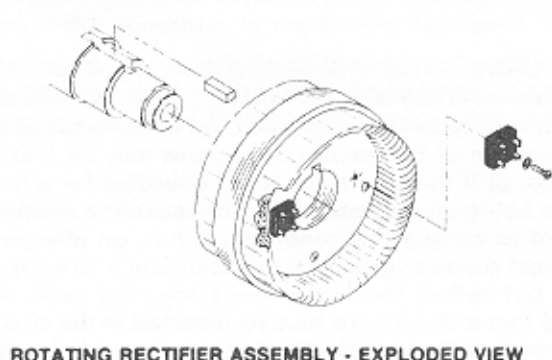

FIGURE 8
- A. **ROTATING RECTIFIER ASSEMBLY (ALL UNITS).** The rotating rectifier assembly consists of two "full wave molded bridge rectifiers" mounted on the exciter rotor core with cap screws. See Figures 8 and 9. Each bridge consists of a positive (+) terminal and a negative (-) terminal, and two AC terminals marked with an AC sine wave symbol.